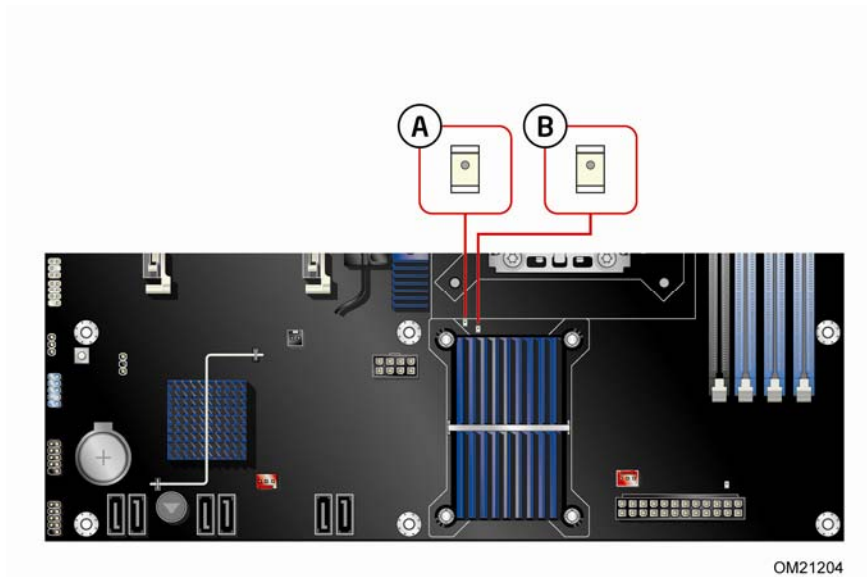

Figure 6. Location of the VR and CPU LEDs
The Desktop Board contains the following two LEDs (see Figure 6) that indicate the status of the board's voltage regulation circuitry and the processor:
- The CPU LED (Figure 6, A) indicates an elevated temperature on the processor that could affect performance.
- The VR LED (Figure 6, B) indicates an elevated temperature in the processor voltage regulator circuit that could affect performance.